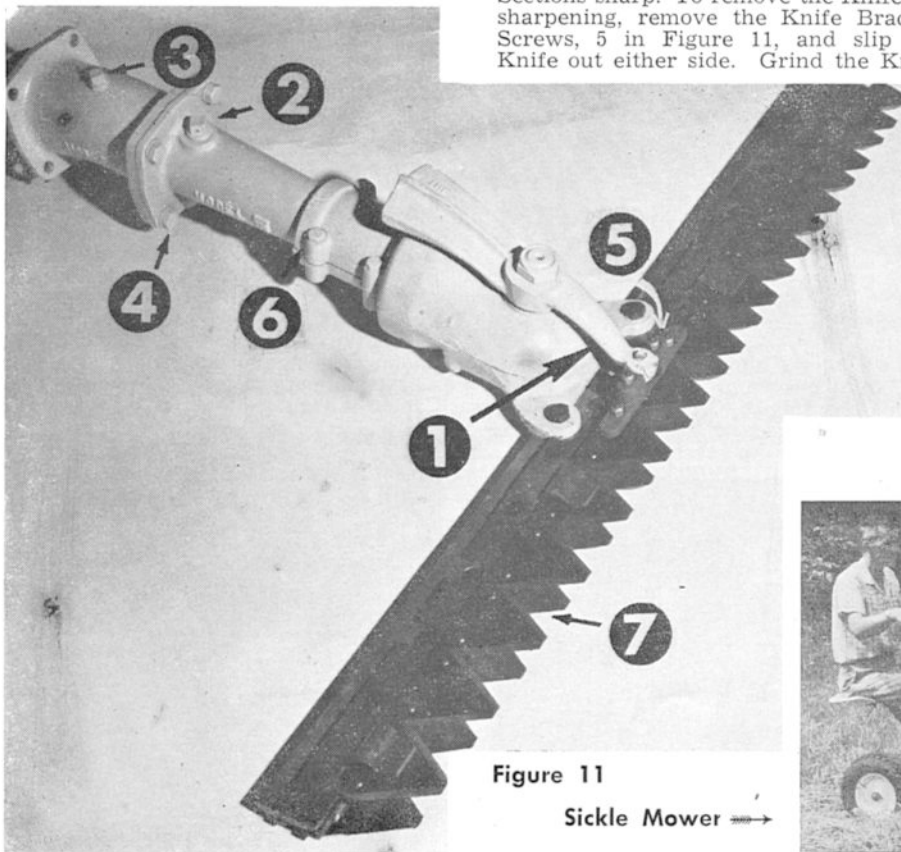

Figure 11
Check the Drive Assembly oil level every four hours of operation by removing the Oil Level Plug, 1 in Figure 11. If oil runs out, the oil level is all right; if not, oil must be added.
To add oil, remove the Oil Filler Plug, 2 in Figure 11 and pour oil through the Oil Filler Hole until oil begins to run out the Oil Level Hole. Replace both Plugs before mowing.
To lubricate the Universal Joint, remove the Grease Plug, 3 in Figure 11, and fill about half-full with General Purpose Grease.
Because the Universal Joint needs lubrication only occasionally, you may prefer this method: with the Mower detached from the Tractor, remove the Safety Clutch and four bolts, 4 in Figure 11, which hold the lower column to the Universal Housing and slip the Housing partly off. Then apply General Purpose Grease generously to the Universal Joint (coat it all over with one to 1½ inches of General Purpose Grease). Reassemble all parts, making sure you tighten firmly the large nut which holds the Safety Clutch.
**SWIVEL ACTION.** To increase swivel action (allowing the Mower to follow the contour of the ground), loosen the bolts, 6 in Figure 11. When these bolts are tightened firmly, the Mower is held in a rigid position. The bolts should be tight enough so the Guide Bar will hold its position until lowered, but loose enough for the Guide Bar to follow the contour of the ground.
**GUARDS.** Always keep the Guards, 7 in Figure 11, in alignment by tapping these with a light hammer until the Knife Sections lie flat on the Shear Plates of the Guards. Keep the Guard Bolts tightened securely.
For best performance, keep the Knife Sections sharp. To remove the Knife for sharpening, remove the Knife Bracket Screws, 5 in Figure 11, and slip the Knife out either side. Grind the Knife